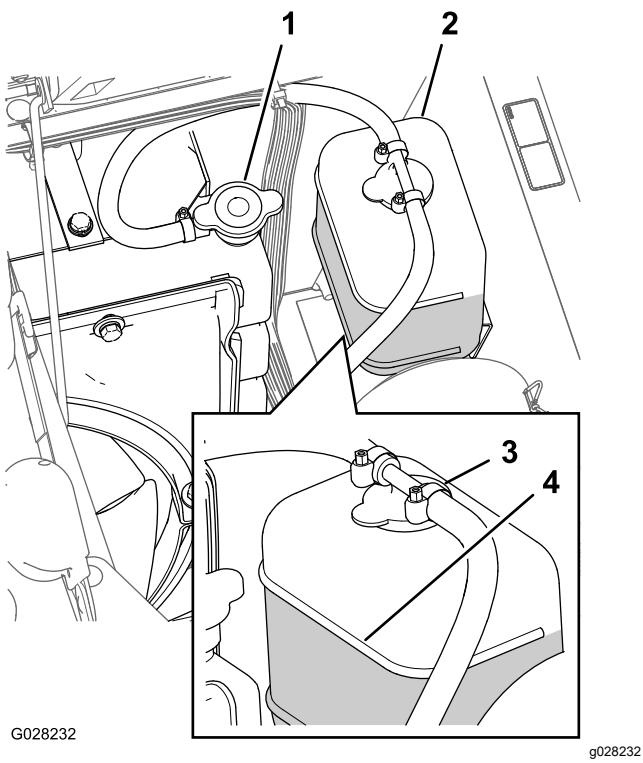

Figure 98
3. Carefully remove the radiator cap and the expansion-tank cap (Figure 98).
**Note:** The radiator should be filled to the top of the filler neck and the expansion tank filled to the Full mark on the tank (Figure 98).
5. If the coolant level is low, remove the expansion-tank cap and the radiator cap, and fill the expansion tank to the Full mark and the radiator to the top of the filler neck (Figure 98).
6. Install the radiator cap and the expansion-tank cap (Figure 98).
2. Wait until the engine is cool, then remove the radiator cap (Figure 98).
6. Remove the radiator cap (Figure 98).
8. Start the engine with the cap loose on the radiator (Figure 98).
10. Once the coolant has warmed up, top off the coolant level to the sealing surface of the cap and tighten the cap (Figure 98).
11. Open the expansion-tank cap and fill the tank with coolant to the Cold level (Figure 98).